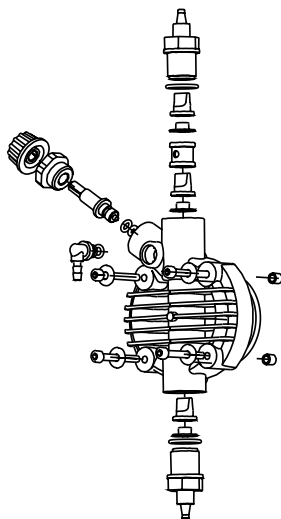

Fig. 10
3. Drain or flush all dosing liquid from the pump head. This operation can also be done with the pump disconnected from the plant by turning the pump upside-down for 15 to 30 seconds and without connecting the tubing to the nipples: if this operation is not possible, dismount and remount the pump head using the four mounting screws. (Fig. 10).
- the additive concentration in the pipework; a reduction of this concentration could be caused by the wearing of the valves, in which case they need to be replaced (Fig. 10) or by the clogging of the filter which then has to be cleaned as in point 3 here below.
This operation can also be done with the pump disconnected from the plant by turning the pump upside-down for 15 to 30 seconds and without connecting the hose to the nipples; if impossible, dismount and remount the pump head (Fig. 10) using the four mounting screws.
As the system is quite robust there are no apparent mechanical problems. Occasionally there might be a loss of liquid from the nipple because the tube nut has loosened, or more simply the discharge tubing has broken. Very rarely there may be losses caused by the breakage of the membrane, or by the membrane seals in which case they have to be replaced by disassembling the four screws of the pump head (fig. 10), when re-mounting the pump head ensure that the screws are replaced properly, along with “O” ring. After repair, the metering pump will need to be cleaned of additive residues which can damage the pump casing.
❶ THE METERING PUMP GIVES PULSES BUT THE ADDITIVE IS NOT INJECTED
- a. Dismount the suction and discharge valves, clean them and replace, see position (fig. 10). Should the valves be swollen, check valves material against our chemical resistance compatibility chart and fit correct valves. Standard valves are Viton. Upon request ball check valve, can be supplied.